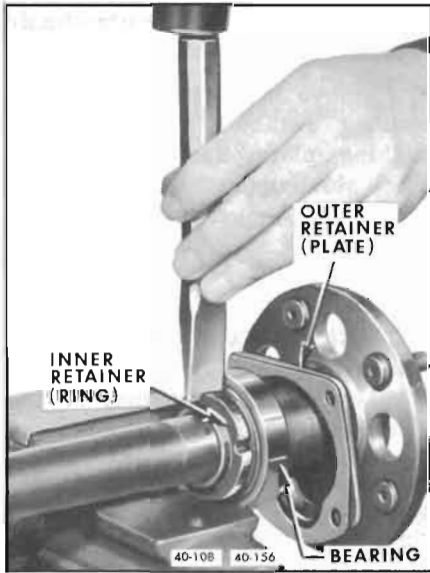

Figure 40-156—Removing Rear Wheel Bearing Retainer Ring
1. Notch wheel bearing retaining ring in 3 or 4 places with a chisel. See Figure 40-156. Retaining ring will expand so that it can be slipped off.